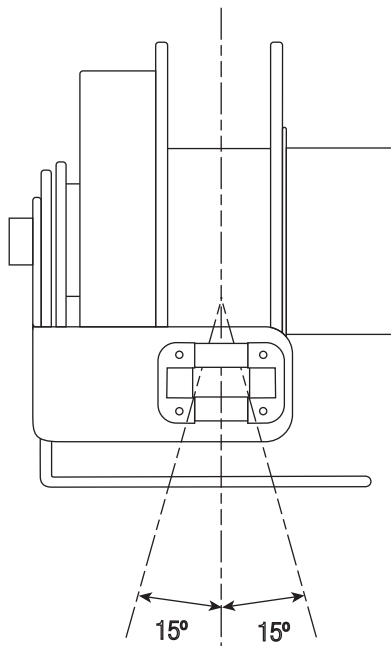

Figure 3-5
- 3.1.3 Position the guide arm so that cable payout is perpendicular to the face of cable roller guide. The total cable deflection should not exceed 15° to either side of the center line of the spool (see Figure 3-5). If deflection is constant to either side of the reel and operation is impaired re-mount the reel.